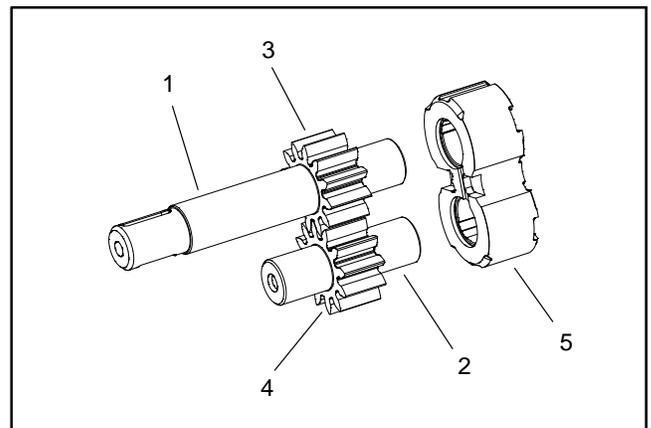

Figure 26
**Inspecting the Hydraulic Pump (Fig. 26)**